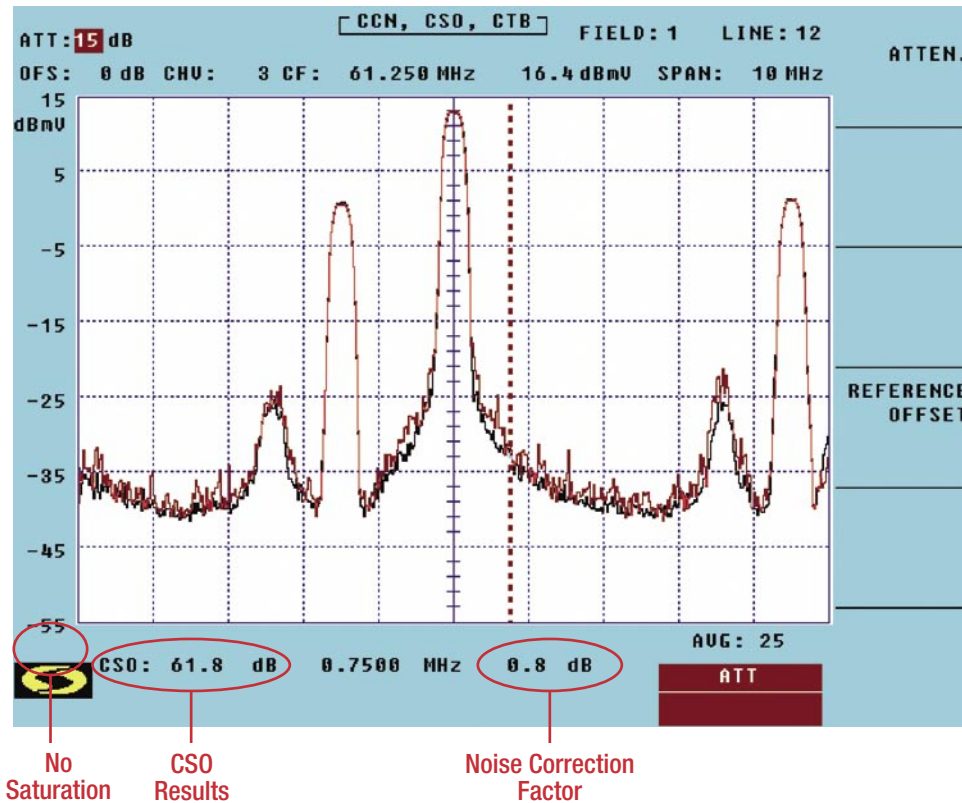

Figure 5
8. Press enter and the measurement will continue. The results are displayed on the bottom of the screen as shown in Figure 5. The analyzer measures the 3 CSO beats and displays the worst case CSO beat. Notice also the noise correction factor. The lower this number, the better the accuracy of the measurement. A correction factor of 7 dB or more indicates inaccuracy. To reduce the correction factor set the video carrier higher in step 7.